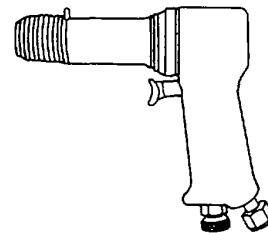

Figure 5-17. Pneumatic Hammer
- (4) Perform grinding operations by holding the grinder so that the proper edge of the grinding stone is against the work.
**5-9. Pneumatic Hammer.** The pneumatic hammer, shown in figure 5-17, is used for heavy-duty cutting, shearing, punching, and chiseling and breaking joints. The built-in air regulator varies speed and power. Pneumatic hammers have strokes varying from 1 1/2 to 3 1/2 inches, at 2,000 to 4,500 blows per minute. This hammer uses insertable chisels with different end shapes, such as tapered punch, panel cutter, cut-off, and weld buster.